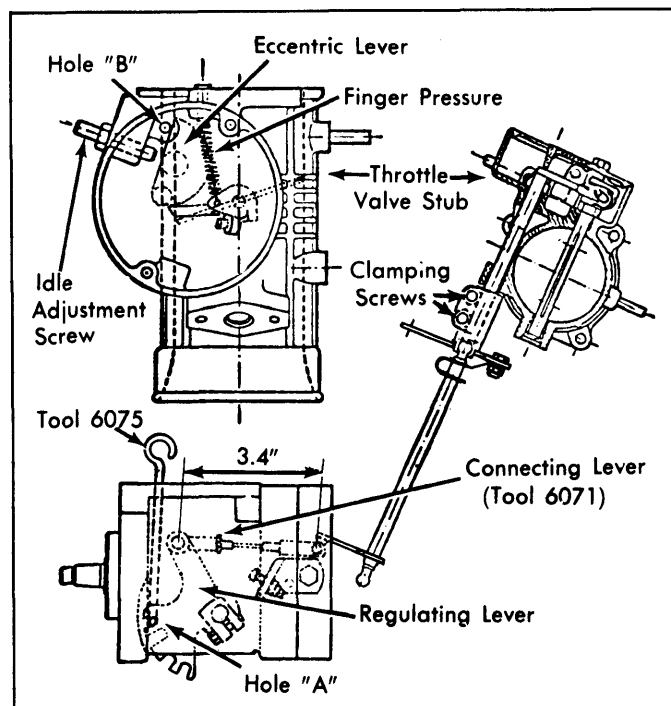

Fig. 1: Pump & Throttle Valve Linkage Adjustment
- 1) Remove air filter and cover. Back off adjustment screw until it DOES NOT touch eccentric lever, then loosen screw on clamp. See Fig. 1.